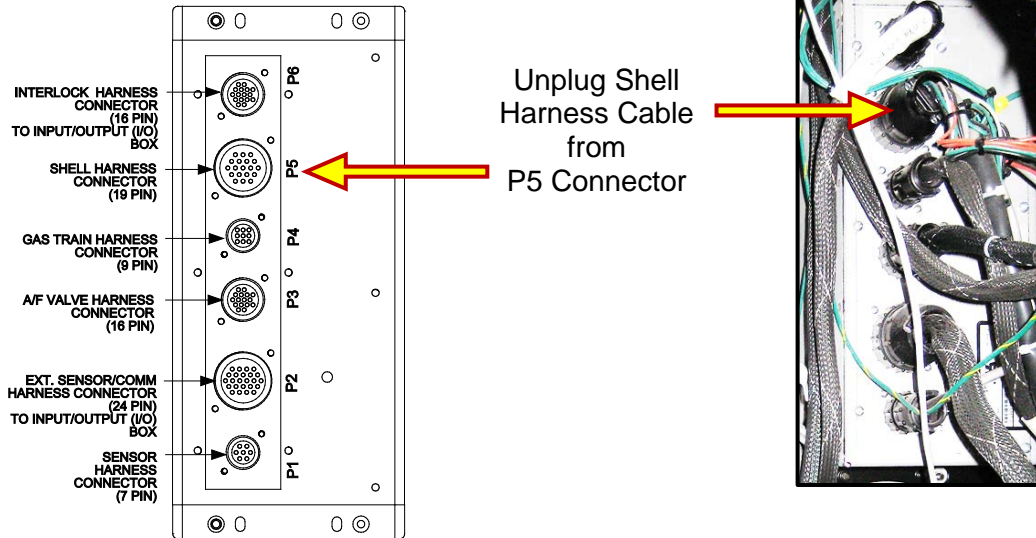

Figure 6-13: Removing Shell Harness Cable from P5 Conn. on C-More Rear Panel
- Remove the Shell Harness Cable (male) connector from the P-5 (female) connector on the rear panel of the C-More controller (see Figure 6-13).